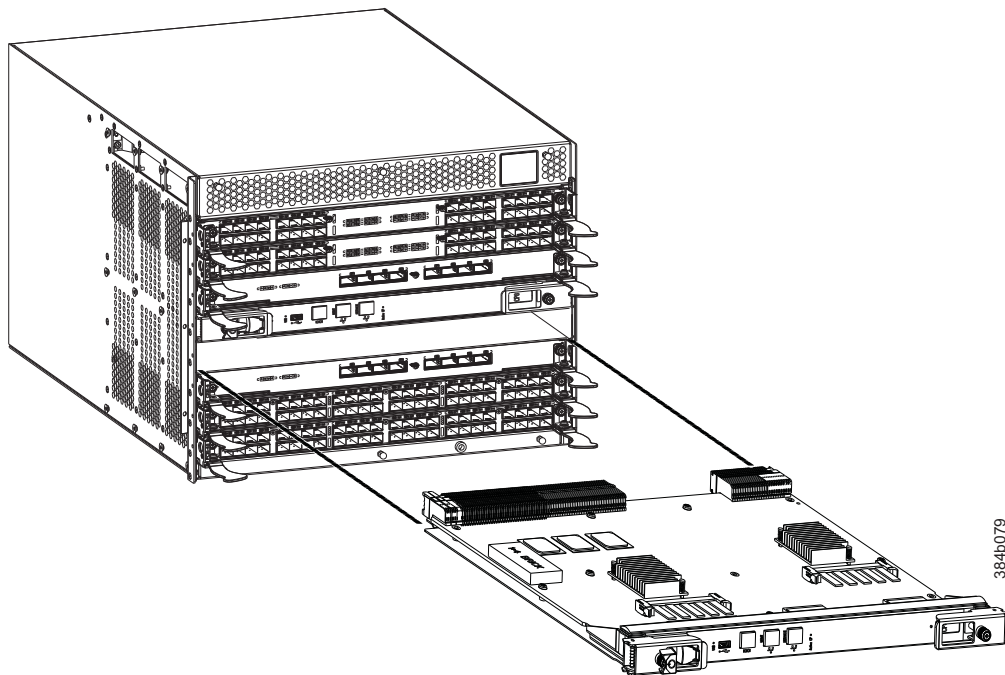

Figure 38. Removing the control processor (CP8) blade
8. Lever open both ejector handles simultaneously to approximately 45 degrees and pull the CP blade out of the chassis (see Figure 38).